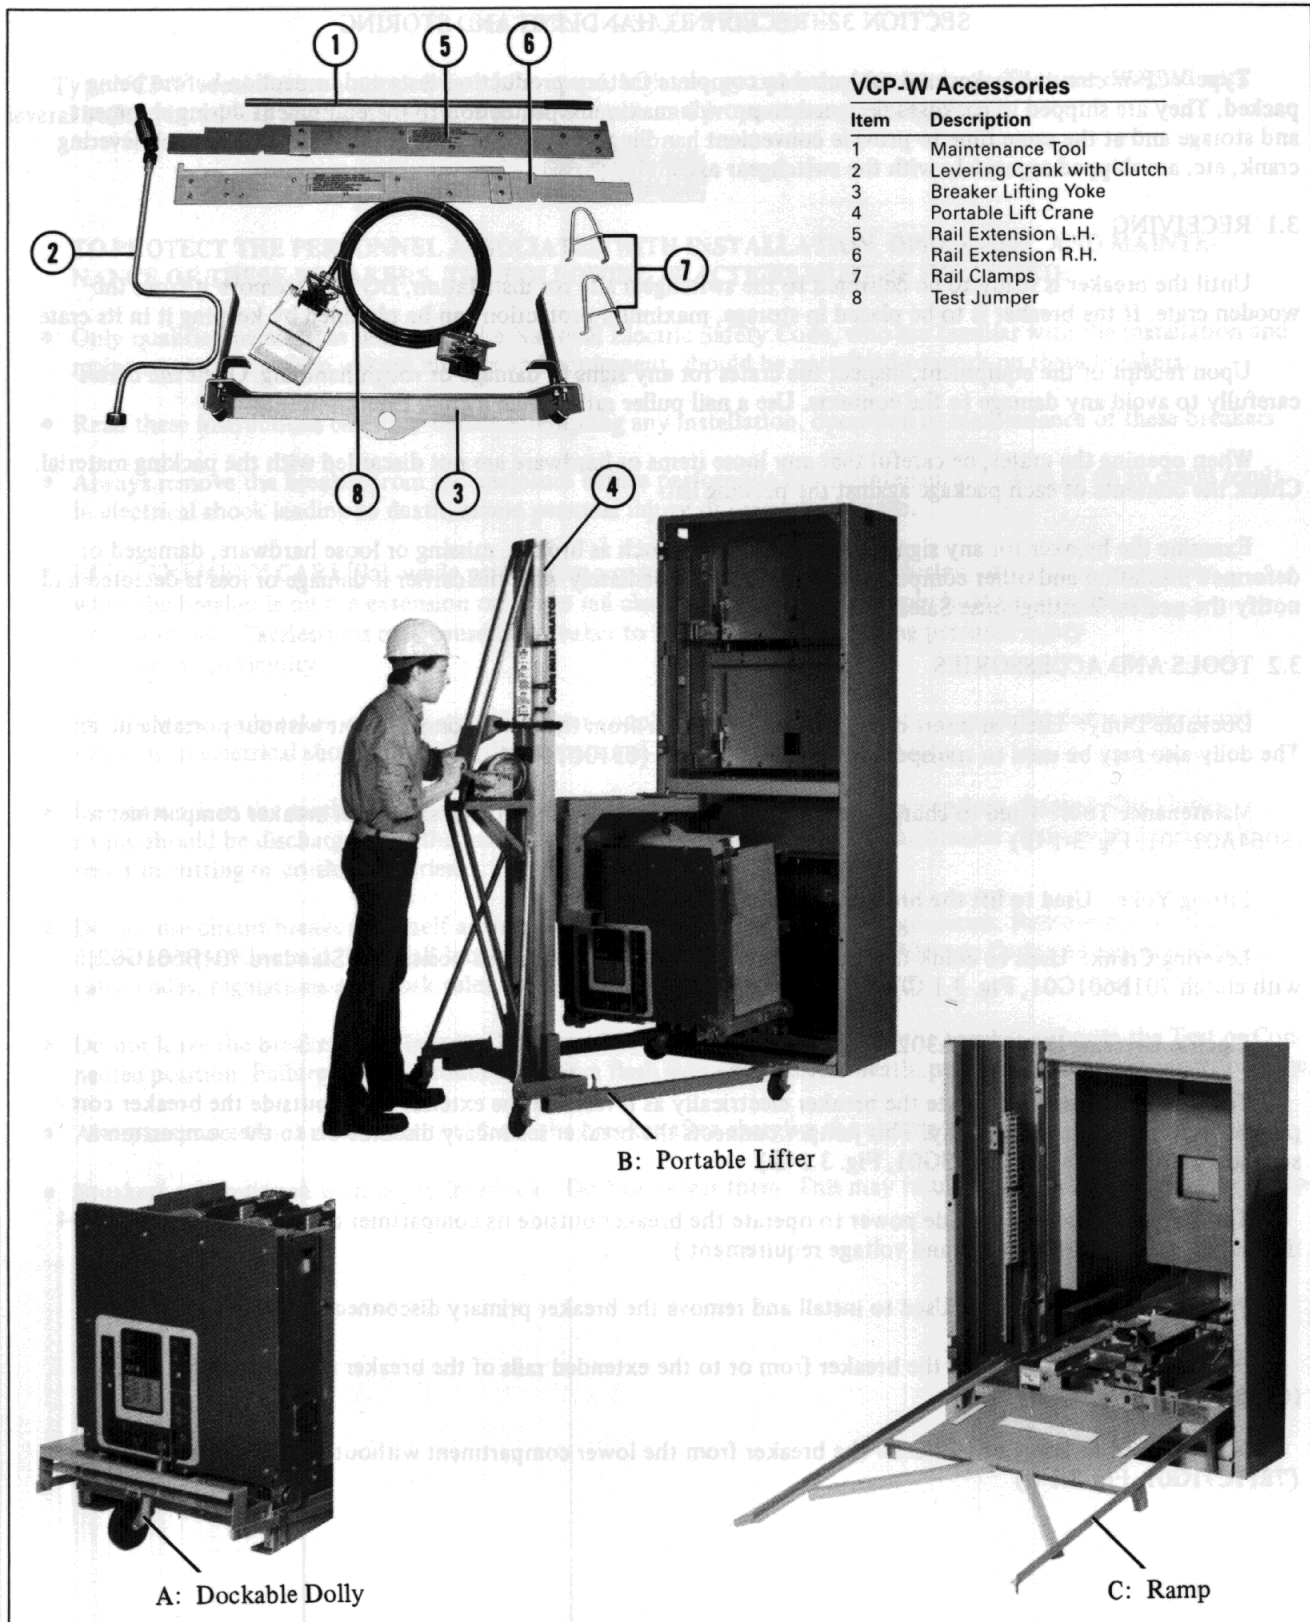

Fig. 3.1 VacClad-W Switchgear Tools and Accessories
- **BE EXTREMELY CAREFUL** while performing any maintenance, charging, closing, or tripping operations while the breaker is on the extension rails. Use rail clamps (Fig. 3-1 Ⓢ) to firmly hold the breaker on extension rails. Carelessness may cause the breaker to fall from the rails risking personal injury to those in the vicinity.
Dockable Dolly: Used to insert or withdraw the breaker from the lower compartment without portable lifter. The dolly also may be used to transport the breaker around. (6510C71G01, Fig. 3.1 A)
Maintenance Tool: Used to charge the closing springs manually and lift the shutter in breaker compartment. (8064A02G01, Fig. 3-1 ①)
Lifting Yoke: Used to lift the breaker. (691C607G01, Fig. 3.1 ③)
Levering Crank: Used to crank the breaker between Test and Connected positions. (Standard 701B601G02, with clutch 701B601G01, Fig. 3.1 ②)
Test Jumper: Used to operate the breaker electrically as it rests on the extended rails outside the breaker compartment or on the transport dolly. This jumper connects the breaker secondary disconnects to the compartment secondary disconnects. (6526C23G01, Fig. 3.1 ④)
Portable Lifter: Used to lift the breaker from or to the extended rails of the breaker compartment. (6366C91H01, Fig. 3.1 B)
Ramp: Used to insert or withdraw the breaker from the lower compartment without portable lifter. (7811C71G01, Fig. 3.1 C)